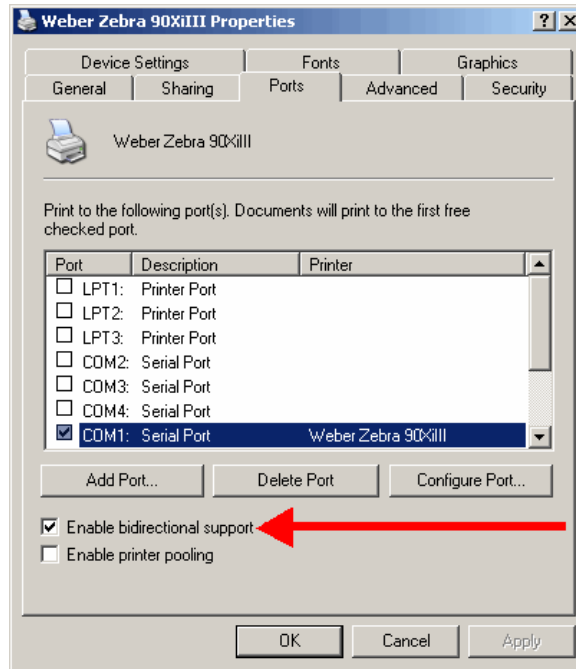

Figure 3-18
3.3.4. **Uncheck** the *Enable Bidirectional Support* option (near the lower left). (Figure 3-18)